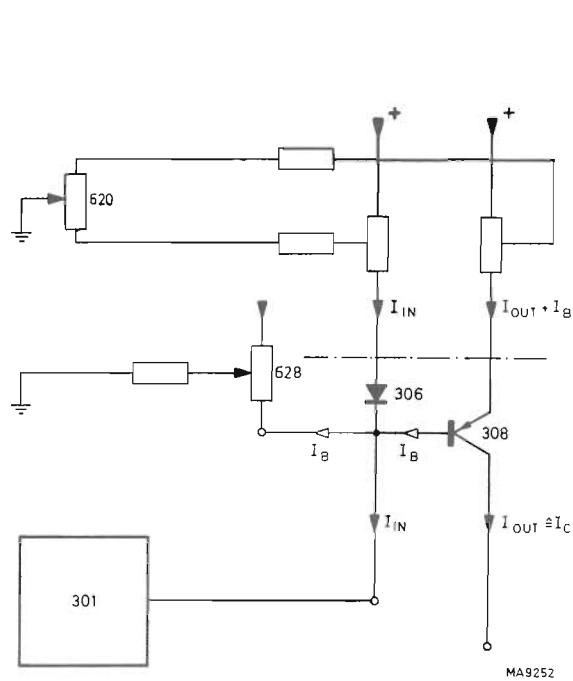

Fig. 8. Principle of the current mirror
- 3.1.3.3. The output currents of the voltage-current converters are "reflected" by each a current-mirror pair in ratio 1:1 or 10:1 and supplied to the oscillator. The current mirrors are mainly made of a series diode (e.g. U5/306) -resistor; see example in fig. 8.
The practical differences of the input diodes and the differences in resistances are compensated by potentiometer (e.g. fig. 8, U5/620). The built-in potentiometer supplies a correcting voltage, causing a correcting current superimposition.